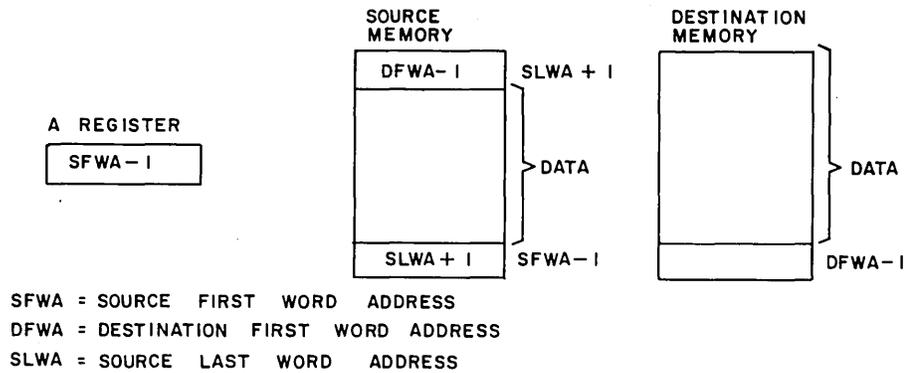

Figure 4. Address Arrangement for Buffered Transfer
**Buffered Transfer:** In this mode, data is transferred directly to/from computer core storage via the 1716 (see Figure 4). The transfer is initiated by one computer executing an Output from A instruction with the W field of Q selecting a buffered transfer (see Table 4). The transfer is accomplished by defining the bounds of the source data and the FWA-1 of the destination location. The output to the 1716 initiates the buffer transfer and sends via the A register the source data FWA-1 (SFWA-1). The contents of SFWA-1 is the source data LWA+1 (SLWA+1). The contents of SLWA+1 is the destination data FWA-1 (DFWA-1). Bit 15 of all these addresses refers to the "other" computer if it is set; "this" computer if not set. It is thus possible to make a block transfer within a single computer's core storage. All flag, mask, and status functions of the 1716 are available in the buffer transfer mode.